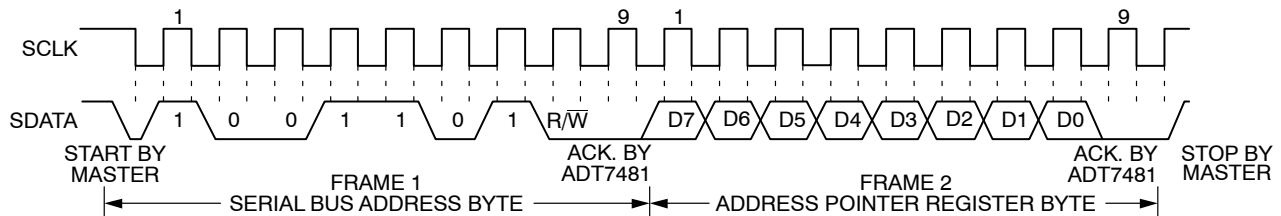
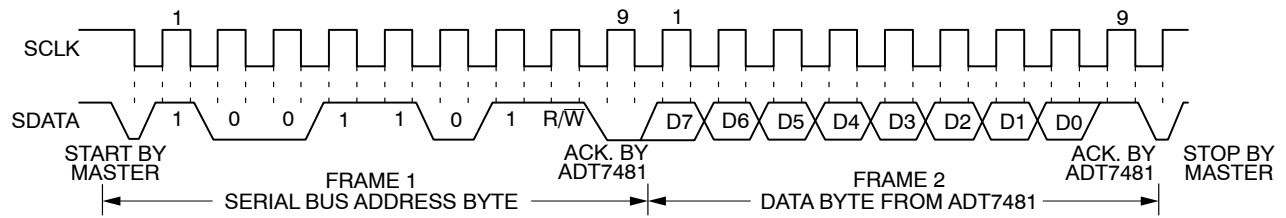

Figure 16. Writing to the Address Pointer Register Only
Figure 17. Reading Data from a Previously Selected Register
1. If the address pointer register value of the ADT7481 is unknown or not the desired value, it is necessary to set it to the correct value before data can be read from the desired data register. This is done by performing a write to the ADT7481 as before, but only the data byte containing the register read address is sent, as data is not to be written to the register. This is shown in Figure 16. A read operation is then performed consisting of the serial bus address, R/W bit set to 1, followed by the data byte read from the data register (shown in Figure 17).
2. If the address pointer register is already at the desired address, data can be read from the corresponding data register without first writing to the address pointer register, and the bus transaction shown in Figure 16 can be omitted.